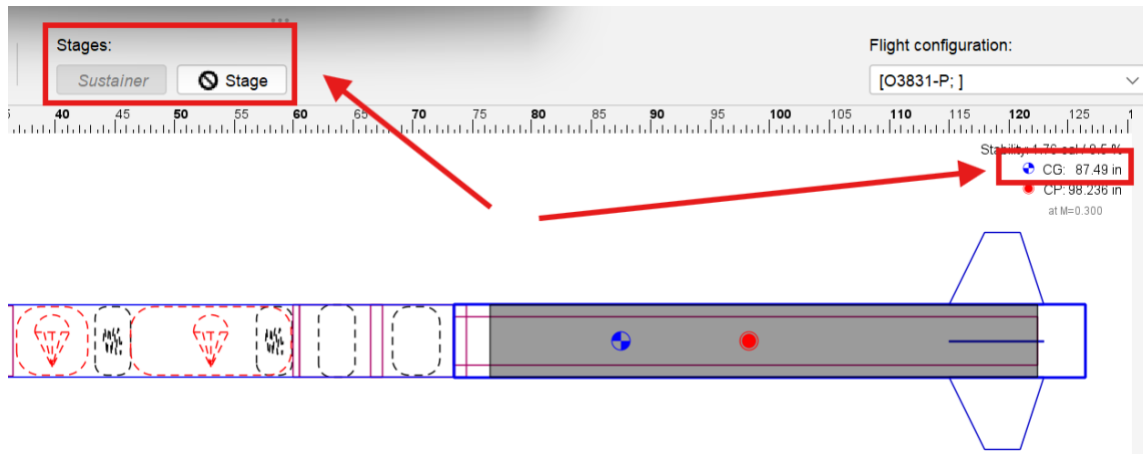

Figure 7: Location for finding Sustainer CG in OpenRocket.
7. Select [Flight Simulation], then double click the box under the *Motor(s) Loaded* tab. Then, select or enter the correct information under every box that can be edited. Values for *Sustainer CG* and *Loaded Wt* can only be found in OpenRocket. Figures 7, 8, 9, and 10 show where values for *Sustainer CG*, *Sustainer Loaded Wt*, *Combined CG*, and *Combined Loaded Wt* can be found within OpenRocket. Ensure that the correct options boxed in red are selected for each value, then press [Save]. Your screen should be similar to what is shown in Figure 11 before saving.